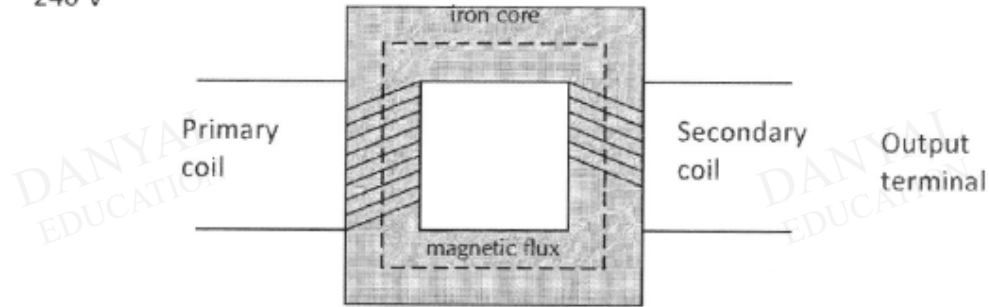

Fig. 12.7
- (b) Fig 12.7 shows an ideal transformer connected to an a.c. input voltage of 240 V. The transformer has 2000 turns in Primary coil and 100 turns in Secondary coil. A current of 8.0 A flows in the secondary coil.